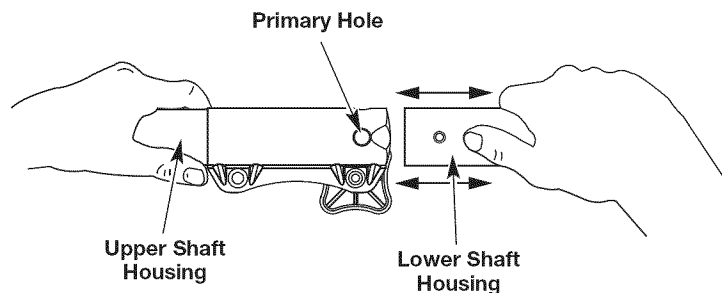

Fig. 8
2. While firmly holding the trimmer attachment or other attachment, push it straight into the Convertible™ coupler until the release button snaps firmly into the primary hole (Fig. 8).
3. While firmly holding the upper shaft housing, pull the trimmer attachment or other attachment straight out of the Convertible™ coupler (Fig. 8).